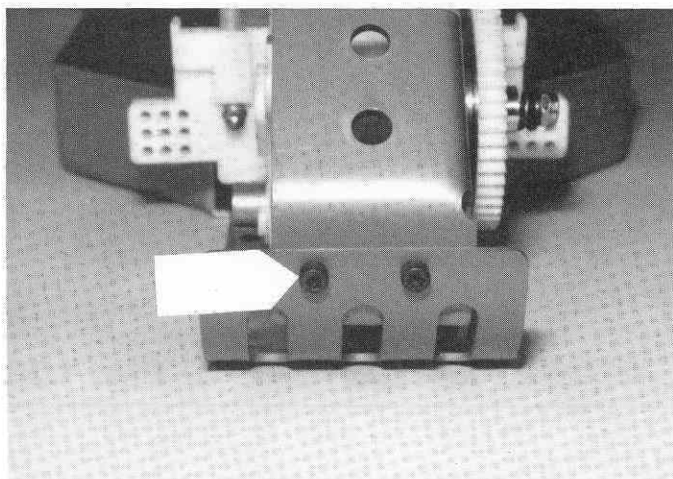

Fig. 106
□ **Fig. 106** Attach the rear of the chassis plate to the motor mount with 2 short Allen screws and tighten down. Now go back and tighten down all the screws in photos #99, 100, 102, 103 and 105. Be careful when tightening screws into plastic. As soon as they feel like they're starting to tighten up - stop - so you don't strip out the plastic.